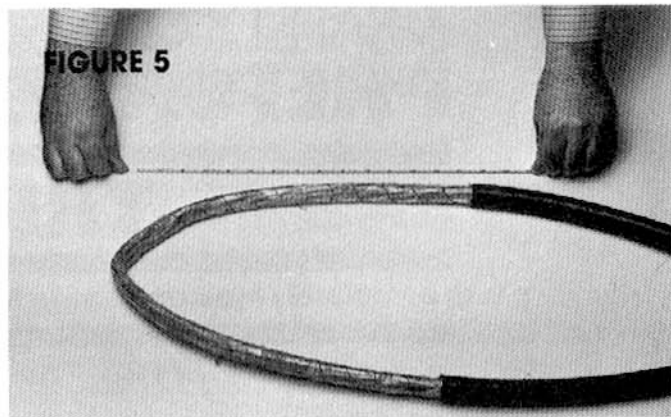

**FIGURE 4**
**1.03** Cover the scuffed areas with vinyl tape. (Fig. 4)